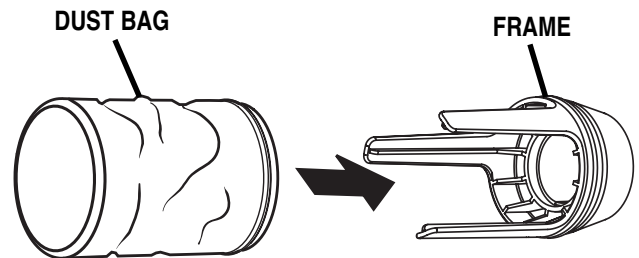

Fig. 9
- For a more thorough cleaning of the dust bag, remove dust bag from frame, as shown in figure 9, and shake out dust.